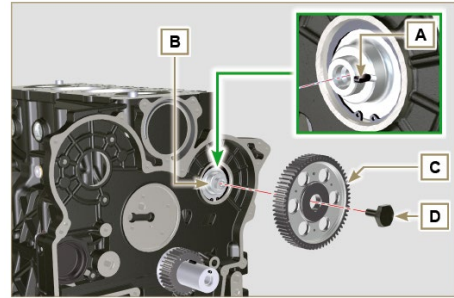

Fig 9.30
10. Tighten the screw **D** (Fig. 9.30 - tightening torque at **100 Nm**).